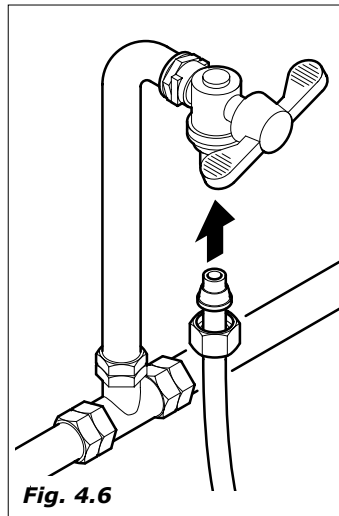

Fig. 4.6
- connect the cock to the distributor, using a pipe in nylon material suitable for food products and suitable for the mains pressure. In the event of the use of a flexible pipe it is necessary to fit the reinforcement bush supplied inside (Fig. 4.6).